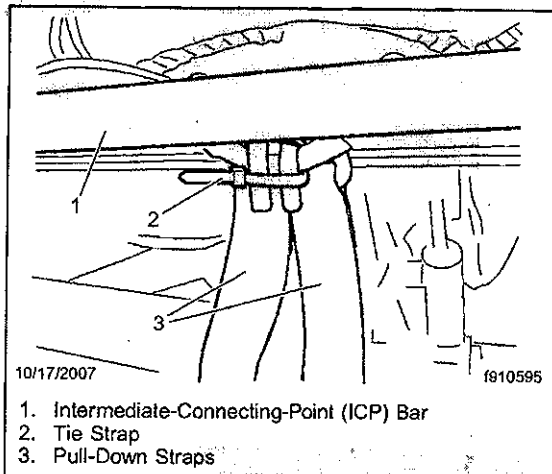

Fig. 4, Pulldown-Strap Hook
9. Cut the tie strap that secures the pulldown-strap hook to the seat belt pretensioner cable. See Fig. 4.
17. Secure the hook to the pretensioner cable with a tie strap. See Fig. 4.